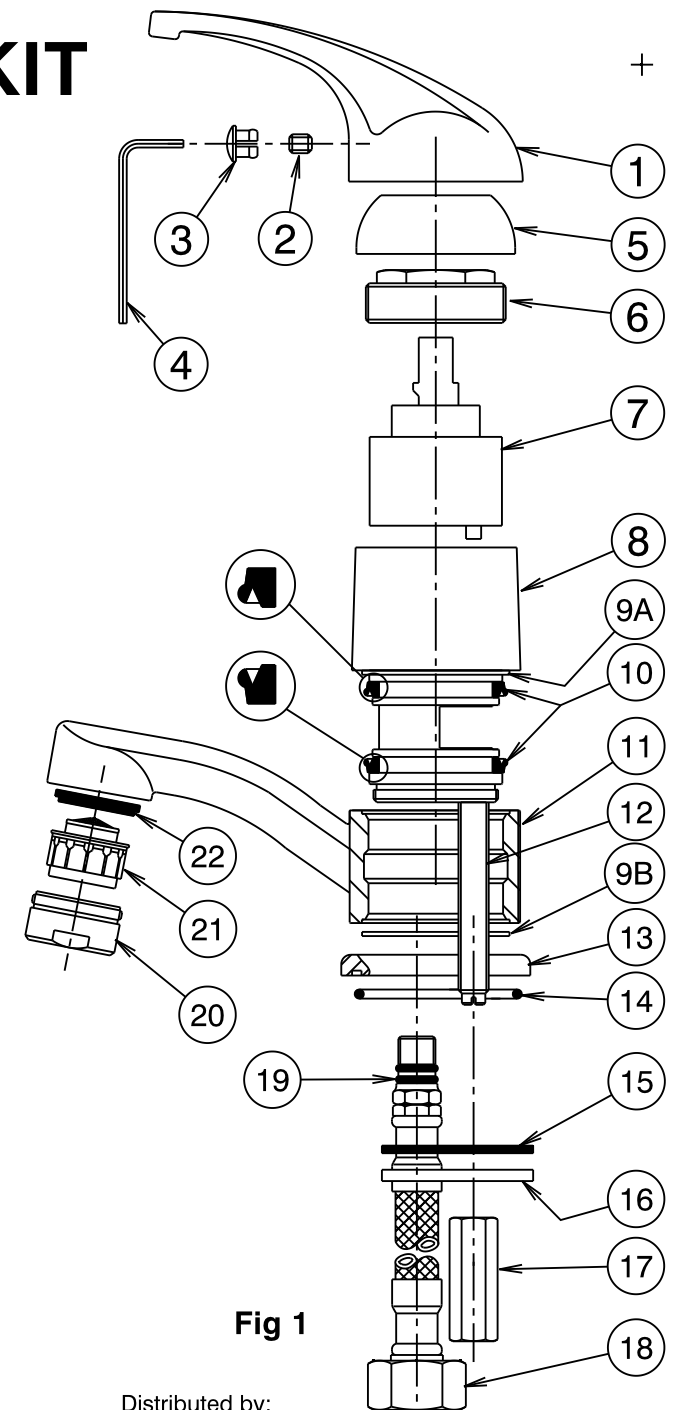

Fig 1
Cleaning the Aerator (Fig 1)
Replacing Cartridge (Fig 1)
Replacing Seals (Fig 1)
- 1) Turn off hot and cold water supplies at isolating stop taps and disconnect flexible tails (18).
- 2) Unscrew fixing nut (17) and remove fixing plate (16) and gasket (15).
- 3) Lift mixer (8) clear of deck and unscrew one flexible tail (18) from underside of mixer. Remove mixer together with remaining flexible tail (18) from deck hole. Firmly hold mixer body (8) while unscrewing base ring (13), taking care not to damage the decorative finish. Remove bottom thrust washer (9B).
- 4) Slide outlet (11) off mixer body (8) and remove worn seals (10). Ensure top thrust washer (9A) is in position then fit new seals (10) into grooves, making sure they are installed as shown in Fig 1.
- 5) Apply suitable lubricant to both thrust washers (9) and seals (10). Carefully slide outlet (11) onto mixer body (8) taking care that seals (10) are not twisted or rolled in their grooves. Replace bottom thrust washer (9B) then screw base ring (13) firmly onto mixer body (8).
- 6) Ensure 'O' ring (14) is in position in base ring (13) then pass flexible tail down through deck hole. Apply suitable lubricant to 'O' rings (19) on remaining flexible tail then pass this tail up through deck hole and install into mixer base. Tighten tail (18) firmly by hand.
- 7) Place mixer into deck hole, ensuring hot water tail (18) is to the left and stud (12) is to the back. Fit gasket (15) and fixing plate (16) over stud (12) and screw on fixing nut (17). Align mixer body so that the handle(1) rotates at equal angles from left to right then tighten fixing nut (17).
- 8) Connect the flexible tails (18) to the hot and cold isolating stop taps, taking care that flexible tails are not kinked, twisted or in tension as they are tightened.